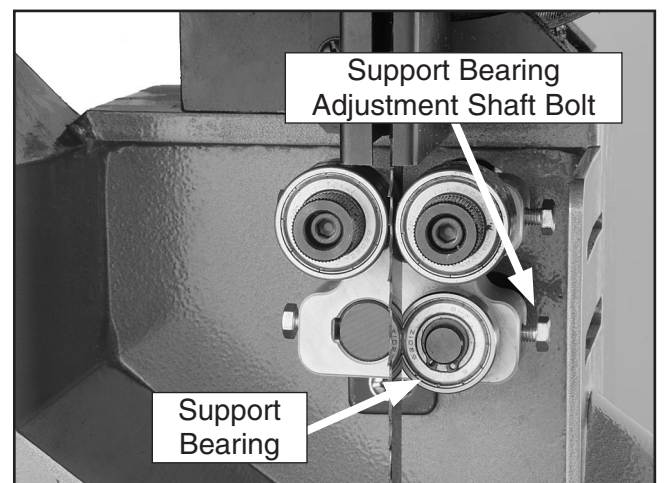

Figure 30. Lower support bearing controls.
- Familiarize yourself with the lower support bearing controls shown in **Figure 30**.